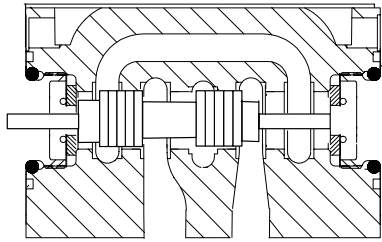
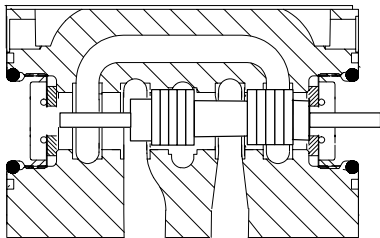
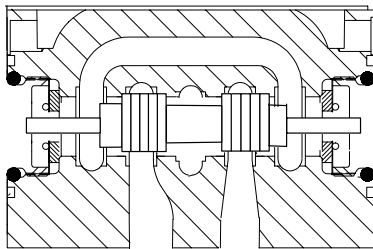

Figure 12a. Flow Conditions
Figure 12b. Flow Conditions
Figure 12c. Flow Conditions
2. **Electrical Solenoid Pilot Operation:** Electrical solenoids are attached to the pilot valve body. Internal push pins connect the solenoid to the pilot spool. When the magnetic field of solenoid "B" is energized, the solenoid armature moves the push pin and shifts the pilot spool towards solenoid "A" (see Figure 12a). When solenoid "A" is energized, the pilot spool shifts toward solenoid "B" (see Figure 12b). When both solenoids are de-energized, the pilot spool shifts to center position (see Figure 12c).